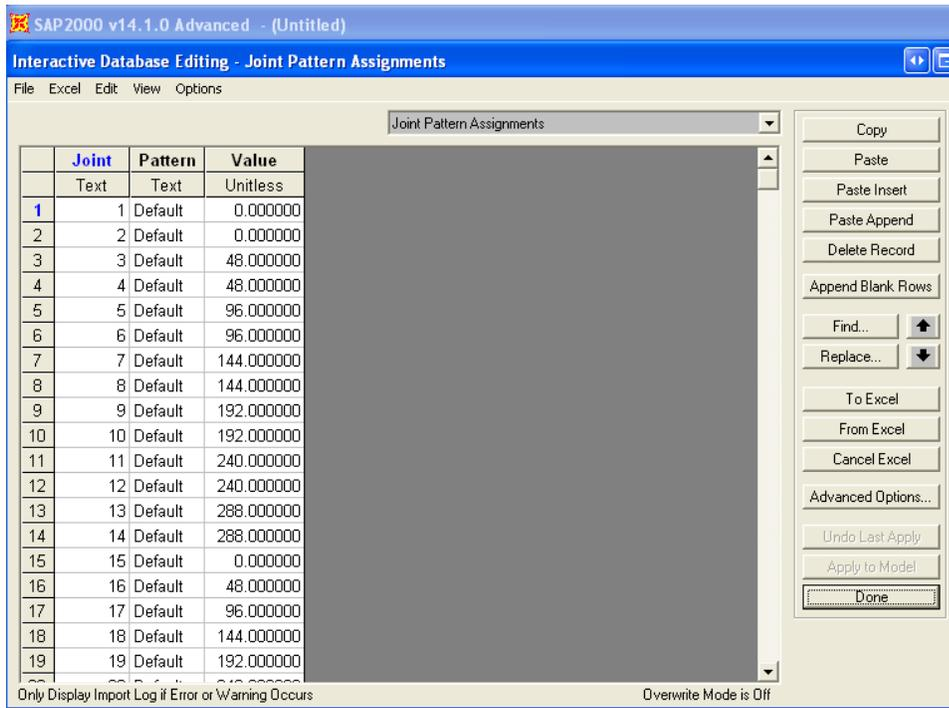

Figure 3 - Joint-pattern assignment
6. Select the Joint Pattern Assignments table in the scroll-down menu, then select To Excel to open the table in Excel. From the previously saved Excel file, copy and paste columns, including joint labels and joint-pattern values, to this new Excel file. Select From Excel > Done to update SAP2000 database tables, as shown in Figure 3: